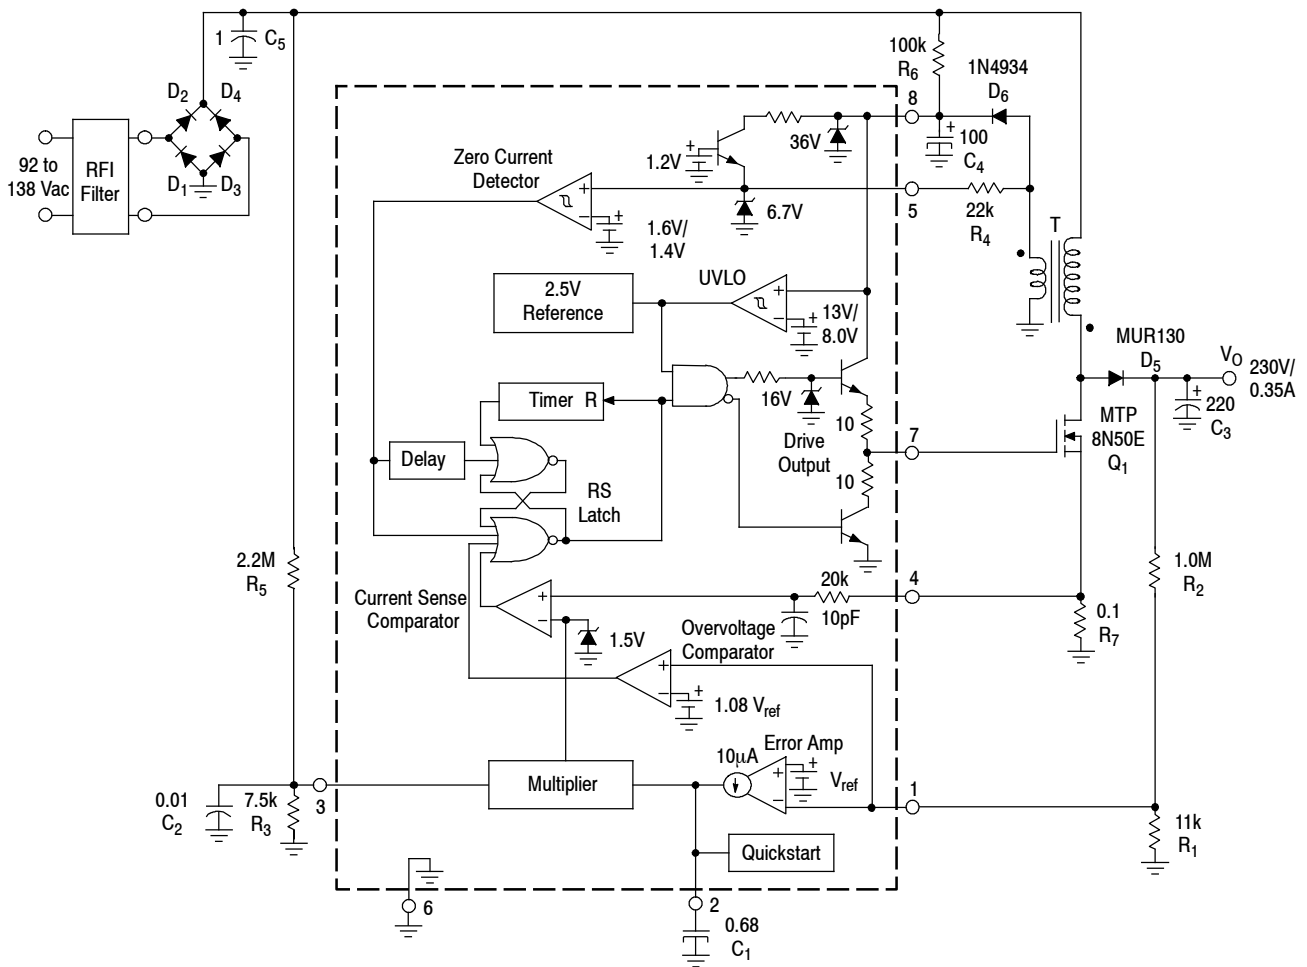
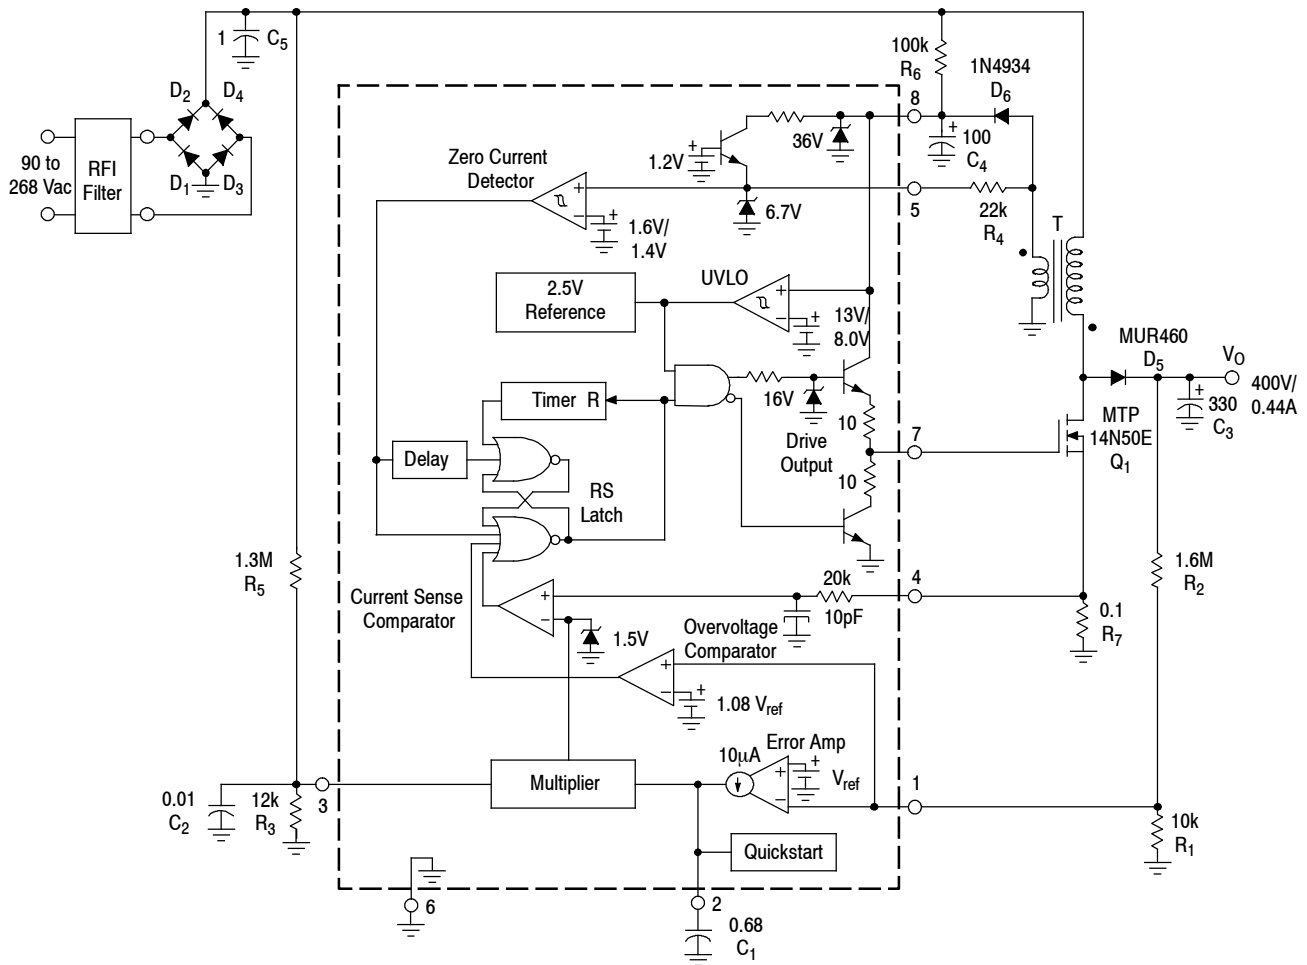
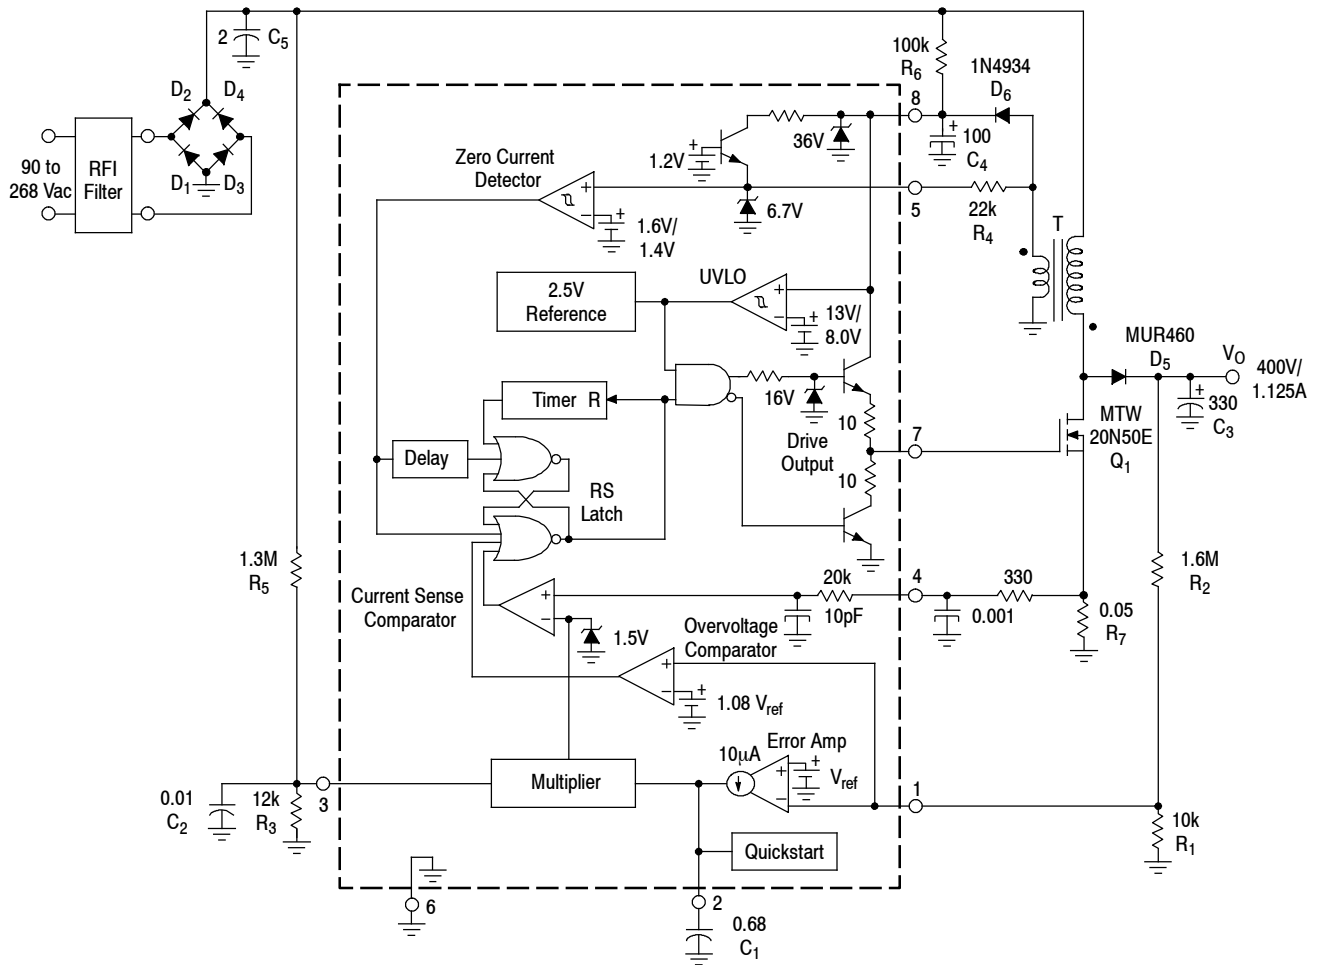

Figure 20. 80 W Power Factor Controller
Figure 21. 175 W Universal Input Power Factor Controller
Figure 22. 450 W Universal Input Power Factor Controller
An internal RC filter has been included to attenuate any high frequency noise that may be present on the current waveform. This filter helps reduce the ac line current distortion especially near the zero crossings. With the component values shown in Figure 20, the Current Sense Comparator threshold, at the peak of the haversine varies from 1.1 V at 90 Vac to 100 mV at 268 Vac. The Current Sense Input to Drive Output turn-off propagation delay is typically less than 200 ns.
0.998 at nominal line. Figures 20 and 21 are universal input preconverter examples that operate over a continuous input voltage range of 90 Vac to 268 Vac. Figure 20 provides an output power of 175 W (400 V at 440 mA) while Figure 21 provides 450 W (400 V at 1.125 A). Both circuits have an observed worst-case power factor of approximately 0.989. The input current and voltage waveforms of Figure 20 are shown in Figure 22 with operation at 115 Vac and 230 Vac. The data for each of the applications was generated with the test set-up shown in Figure 24.
An RFI filter is required for best performance when connecting the preconverter directly to the ac line. The filter attenuates the level of high frequency switching that appears on the ac line current waveform. Figures 19 and 20 work well with commercially available two stage filters such as the Delta Electronics 03DPCG5. Shown above is a single stage test filter that can easily be constructed with four ac line rated capacitors and a common-mode transformer. Coilcraft CMT3-28-2 was used to test Figures 19 and 20. It has a minimum inductance of 28 mH and a maximum current rating of 2.0 A. Coilcraft CMT4-17-9 was used to test Figure 21. It has a minimum inductance of 17 mH and a maximum current rating of 9.0 A. Circuit conversion efficiency  $\eta$  (%) was calculated without the power loss of the RFI filter.
(Circuits of Figures 20 and 21)